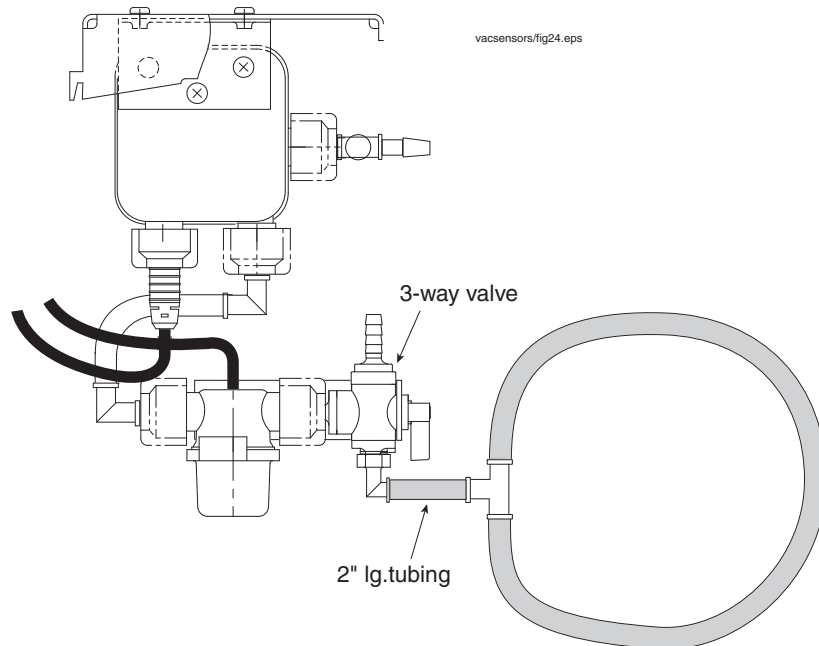

Figure 11. Isolating 3-Way Valve (and Vac Float on Later Models) for Leak Test
- Cut a 2-inch piece of tubing and attach one end to the open fitting on the test loop's tee and the other end to the 3-way valve's input port (see Figure 11).